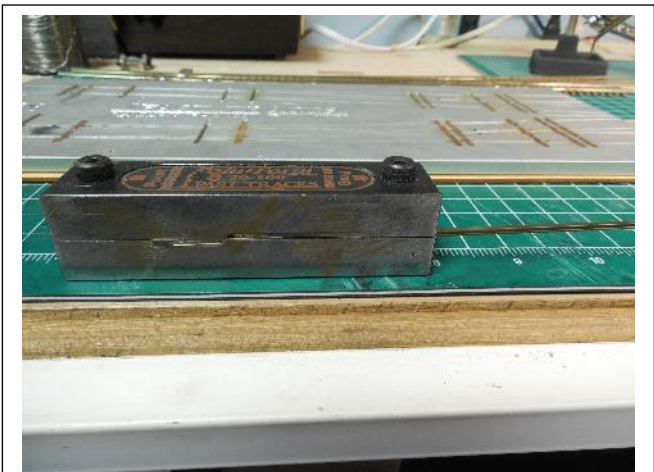
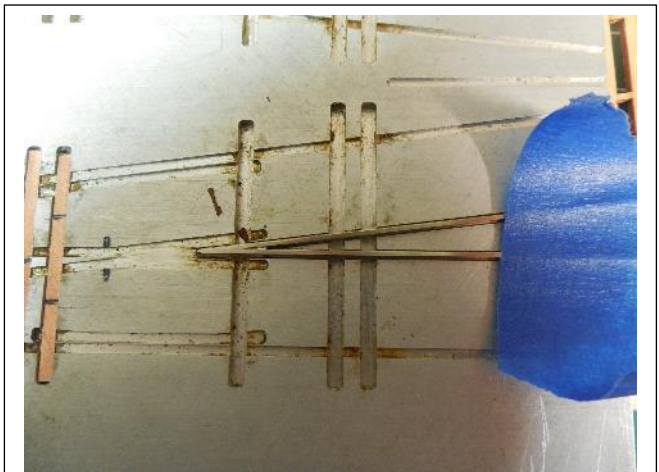

Fig 8 – Forming frog Point in filing jig
Fig 9 – Fit and solder frog rails
3. The Frog. Using 2 pieces of rail, place in Frog grooves, extending outside fixture. Place rail in Point Form tool (fig 8), file sharp points, place in Frog grooves, make a tight fit, tape and add weight, and solder Frog (fig 9), set aside.